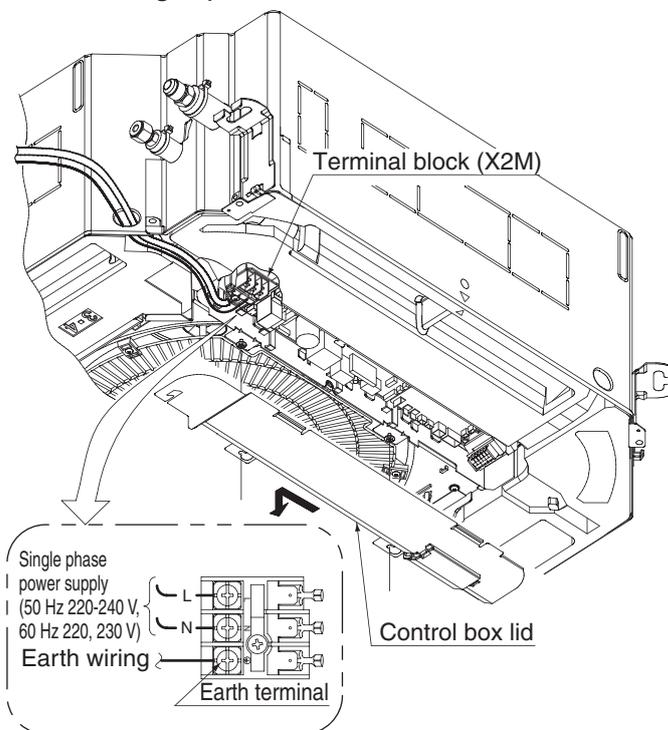
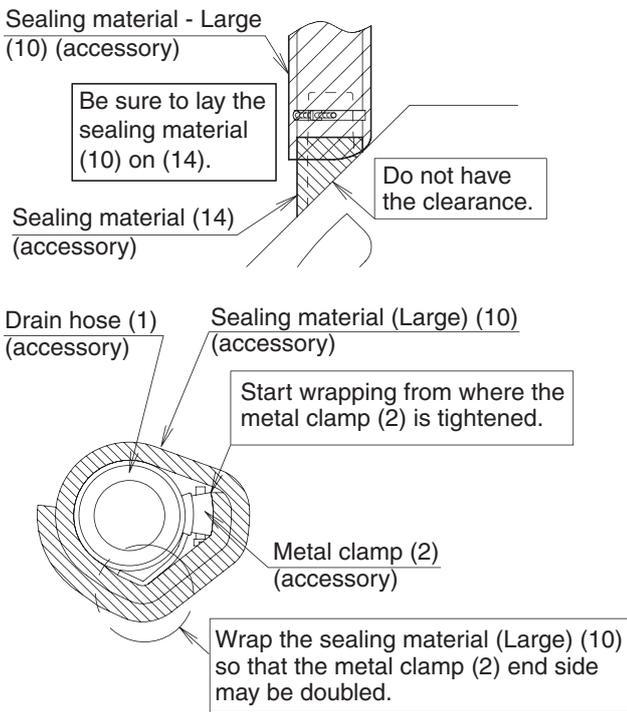

**Fig. 20**
Fig. 22
- After checking the drainage of water, refer to **Fig. 20** and attach the sealing material (14) to perform the thermal insulation of the drain socket.
4. When the power supply is turned on, the drain pump will operate. Drainage can be checked at the transparent part of the drain socket. (The drain pump will automatically stop after 10 minutes.) After checking the drainage of water, refer to **Fig. 20** and attach the sealing material (14) to perform the thermal insulation of the drain socket.
**(3) Sweating may occur and result in water leakage. Therefore, make sure to insulate the following 2 locations (drain piping and drain sockets that laid indoors).**
After drainage is checked, put the attached sealing material (14) referring to Fig. 20, and insulate the drain hose (1) and the metal clamp (2) with the attached sealing material (Large) (10) referring to Fig. 22.